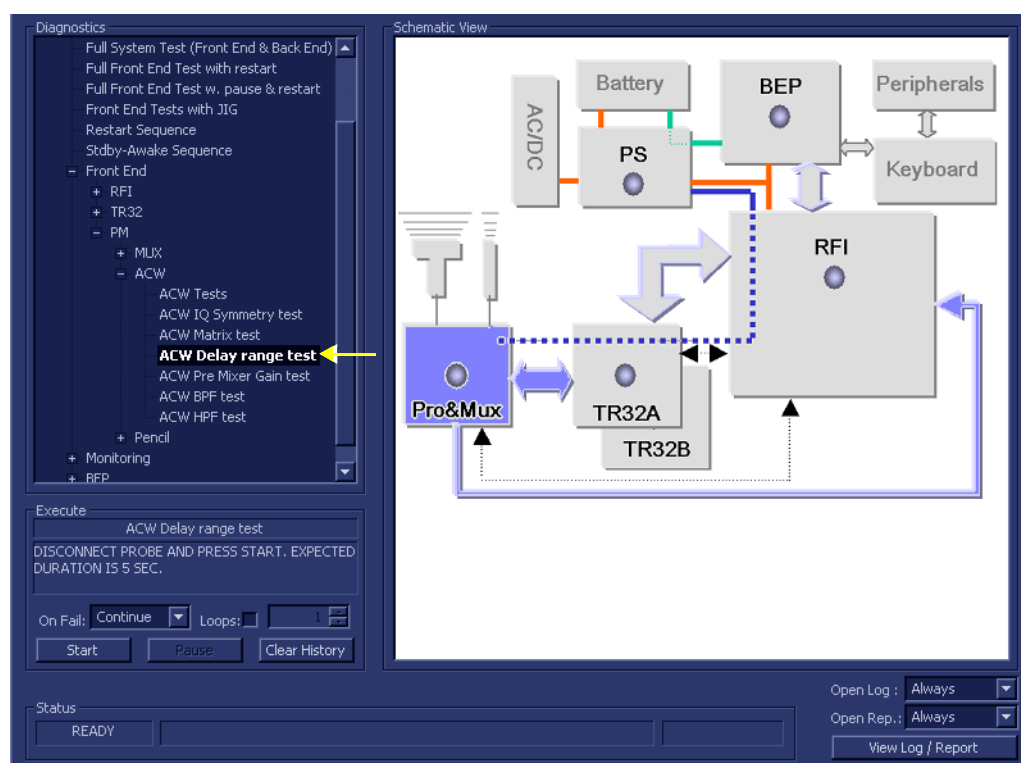

Figure 7-41 ACW Delay Range Test
- 1.) In the *Diagnostic Test* window, trackball to **ACW Delay Range Test** in the list of ACW tests available for selection from the Diagnostic Test Tree (see Figure 7-41 below) and press **Set**. The ACW Delay Range Test name is displayed under *Execute*; the relevant system components to be tested are highlighted light blue in the Schematic View (P&M), as shown below: